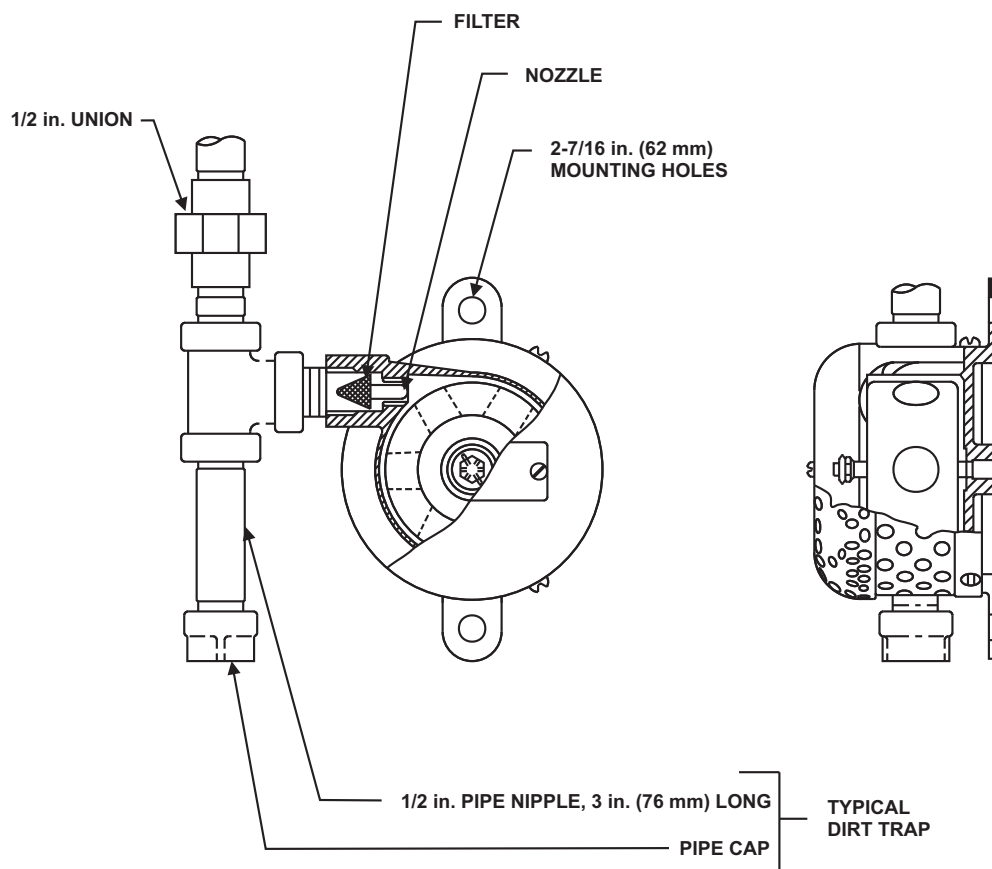

Figure 5-16. Pressure Operated Siren
The CO₂ pressure operated siren (Figure 5-16) shall be located in accordance with the installation plan. Connect the CO₂ siren to the pilot piping with 1/2-inch schedule 40 pipe.
- Install a dirt trap and union as shown in Figure 5-16.
The N₂ pressure operated siren (Figure 5-16) shall be located in accordance with the installation plan. Connect the N₂ siren in accordance with requirements corresponding to the siren driver cylinder noted in Table 5-2: